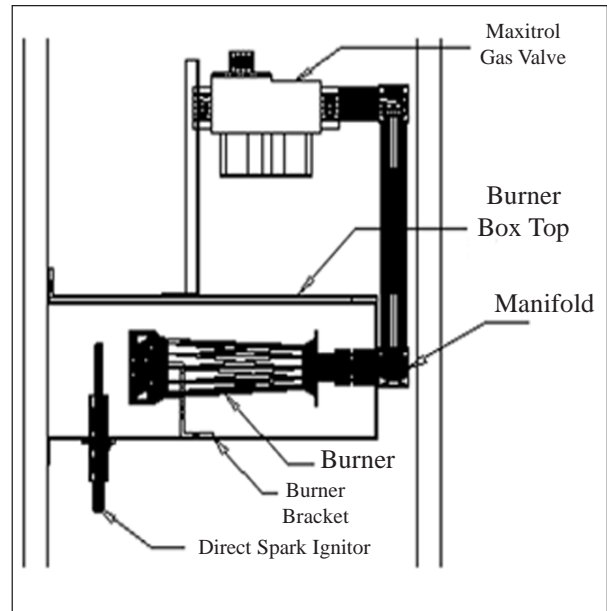

FIGURE 11
4. Unplug wire to direct spark ignitor and sensor. (See Fig. 11.)
6. Remove screws holding burner box top to burner box. (See Figure 11.)
7. Remove burner plate and burner box top. Take care not to contact, or strain ignitor in any way as it is extremely fragile. (See Figure 11.)
8. Remove 2 nuts holding burner bracket. (See Figure 11.)
9. Slide burners toward heat exchanger and lift up from rear and back. (See Figure 11.)